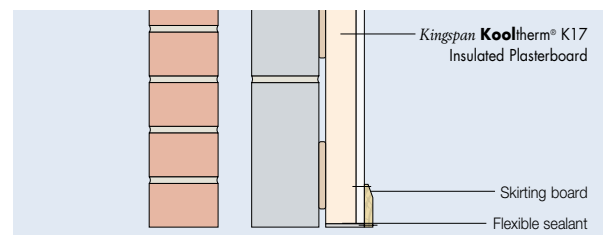

Figure 10 – Packer and Skirting Detail
- The packer should be replaced with a combination of flexible polyurethane foam and flexible sealant or equivalent (see Figure 10).